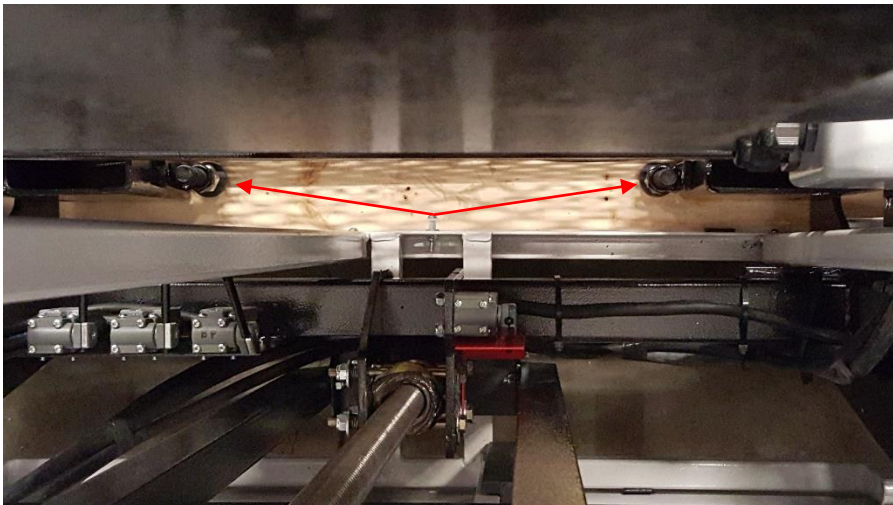

Figure 5
3. Lower carriage until mechanical stop(s) are resting on the foundation – ref. figure 5